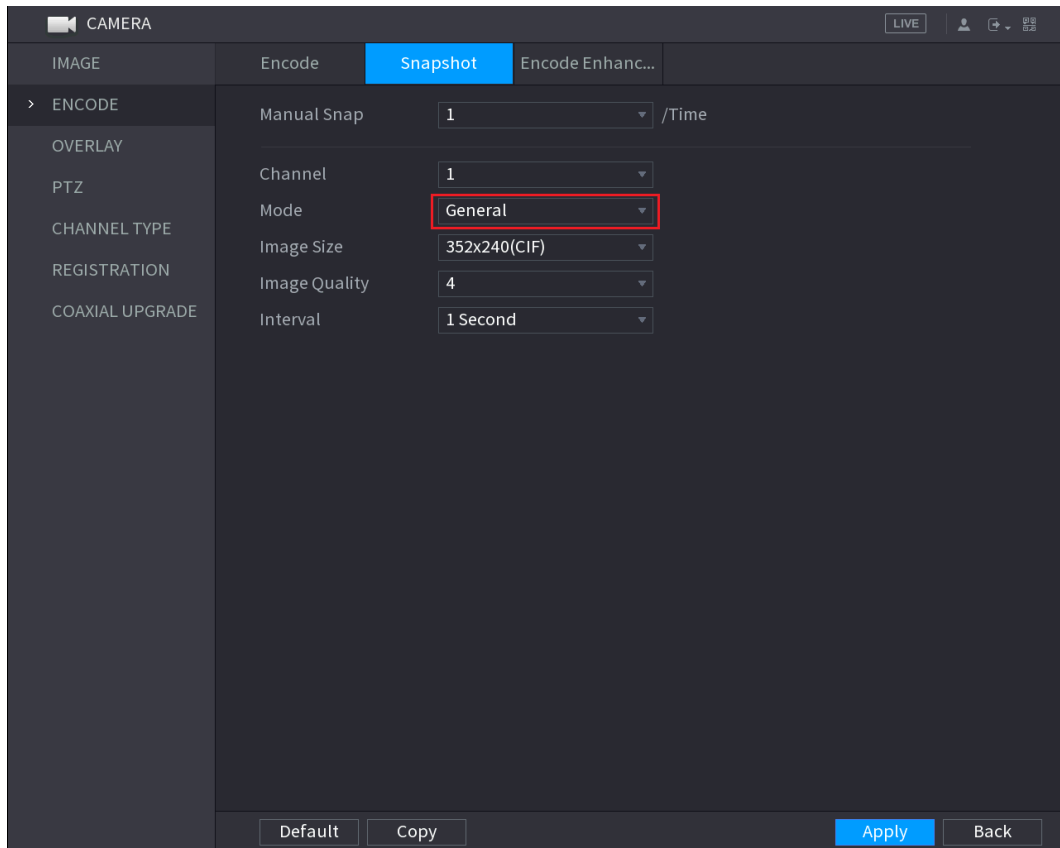

Figure 5-97
Step 5 In the **Mode** list, select **General**, and then configure other parameters. See Figure 5-97.